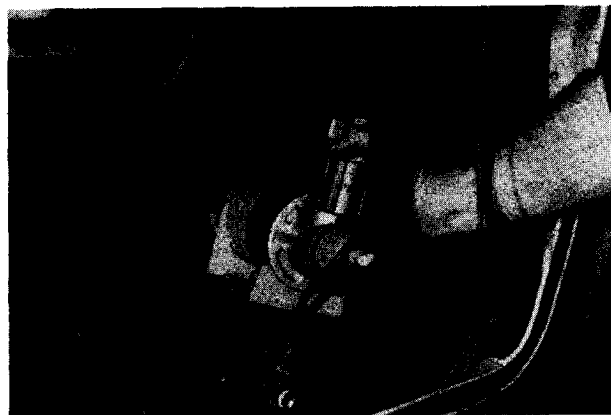

FIGURE 2
4. Remove all compressor mounting bracket attaching bolts. Remove compressor and bracket (Figure 2).